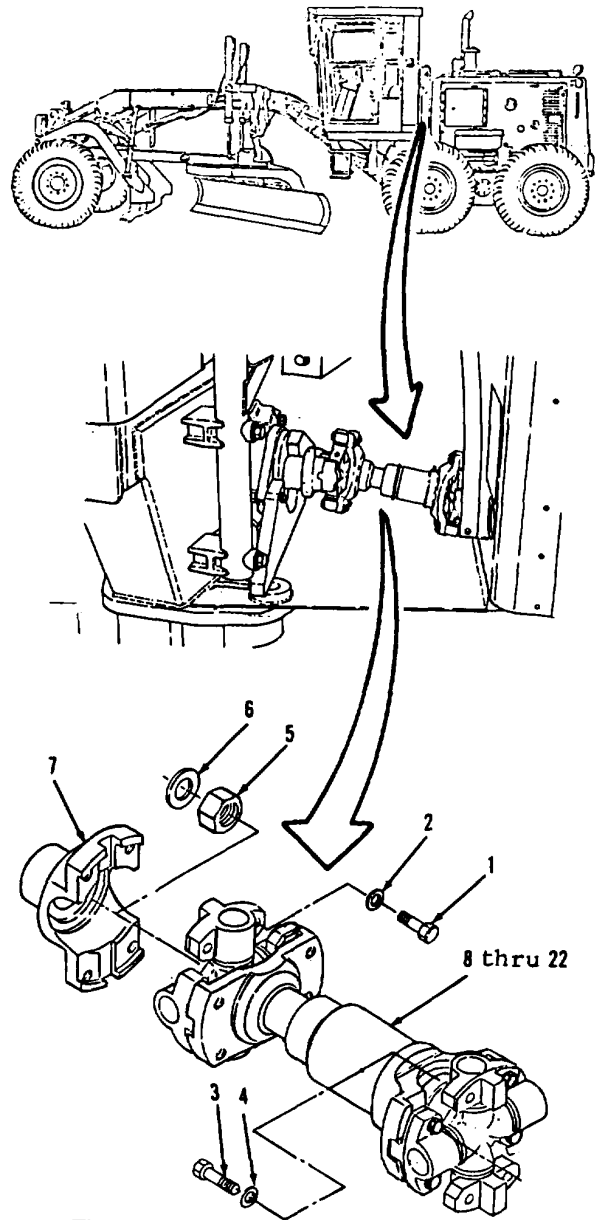

Figure 10-1.
1. Remove four bolts (1) and washers (2, Figure 10-1).
2. Remove four bolts (3), washers (4) and items 8 thru 22 as an assembly.
3. Remove nut (5), washer (6) and yoke (7).